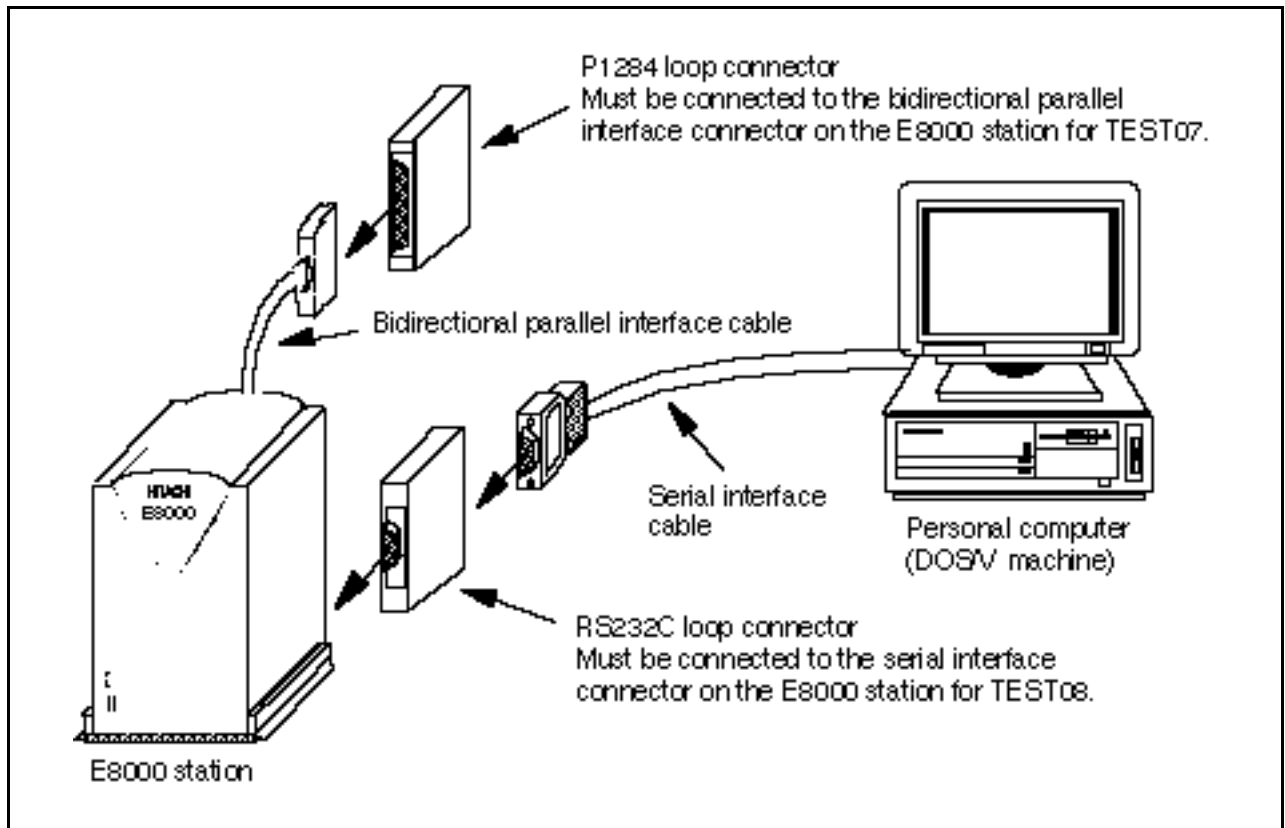

Figure 4.2 Loop Connector Installation
- (1) Before executing the diagnostic program, install the P1284 loop connector, as shown in figure 4.2.
- (2) Enter Y to the following message at diagnostic program initiation:
- (1) Before executing the diagnostic program, install the RS232C loop connector, as shown in figure 4.2.